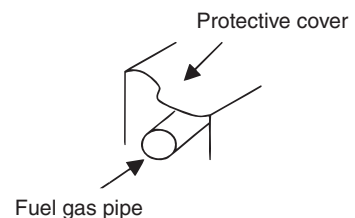

Fig. 11 Fuel pipe protection example
* In regions with heavy snowfall, take precautions to protect the fuel gas pipe path from snow damage (Fig. 11).